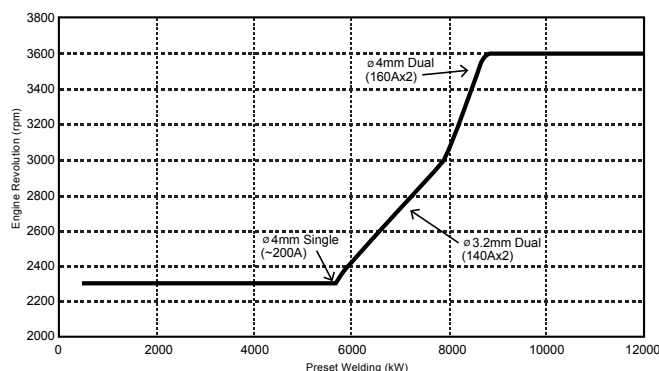

Figure 32. E-Mode Engine Variable Control
4. If welding is started with the **e-mode selector switch** in the variable/low position, the standard welding load voltage is automatically calculated based on the preset welding current (Figure 32) and the engine speed will be controlled by the available kW capacity of the unit for either single or dual mode operation.